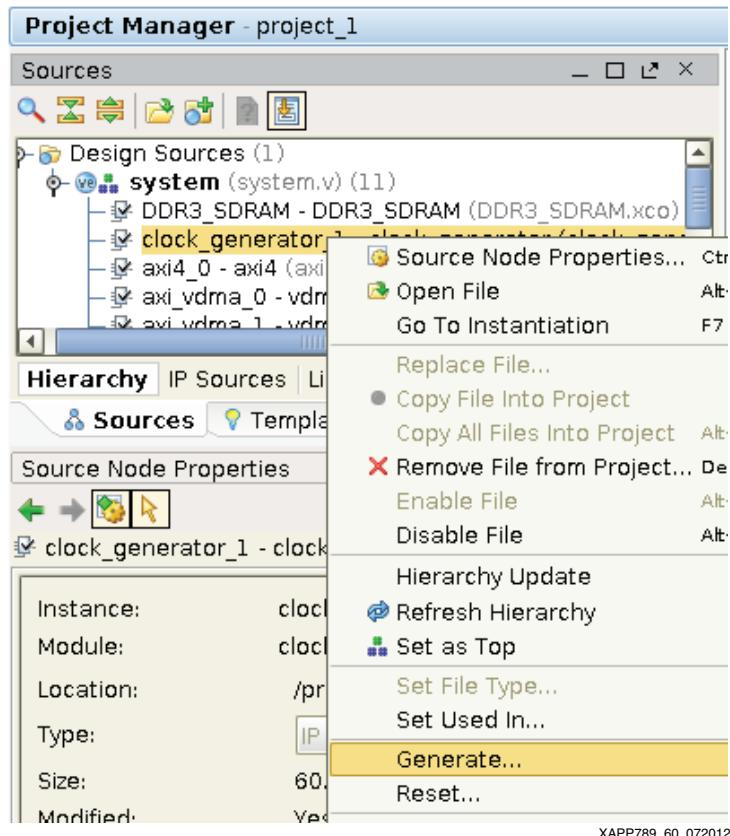

Figure 60: Generate IP Block Instantiation Template
55. In the Project Manager view, Sources window, IP Sources tab, right click **clock_generator IP** and select **Generate...** (Figure 60).